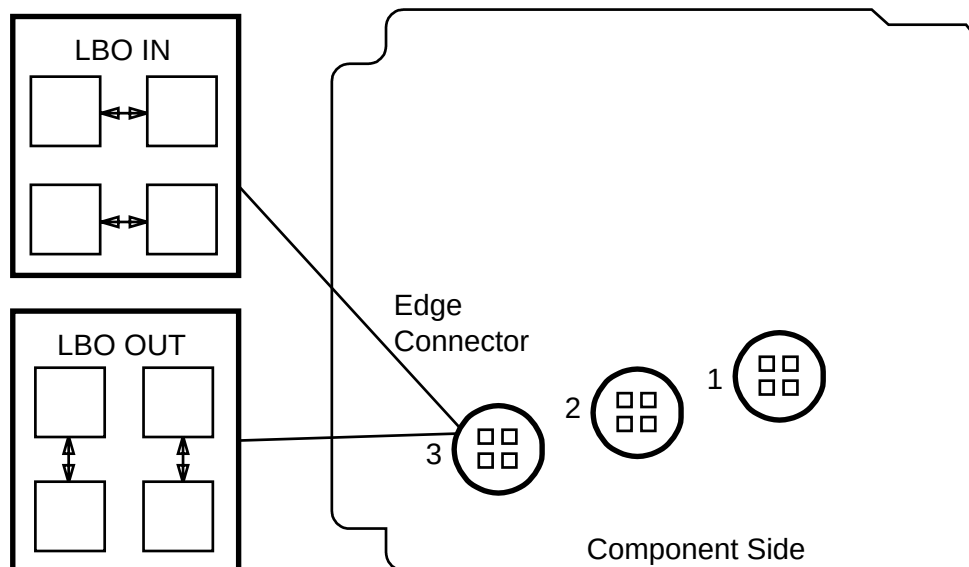

Figure 6. BBG12 3STS1E Option Settings
21. Install **3STS1E** option jumpers per Table K and Figure 6.